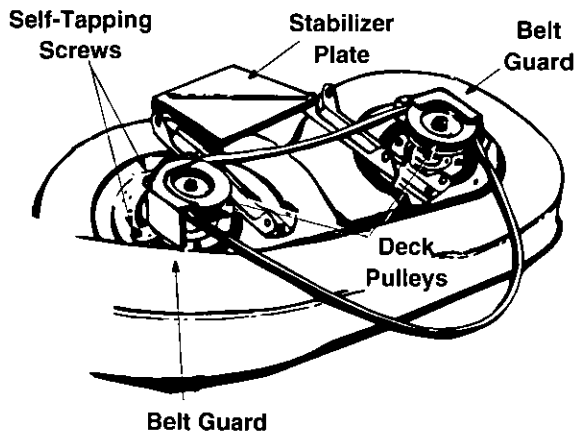

Figure 23
11. Remove the belt guards at each deck pulley by removing the self-tapping screws. See Figure 23.